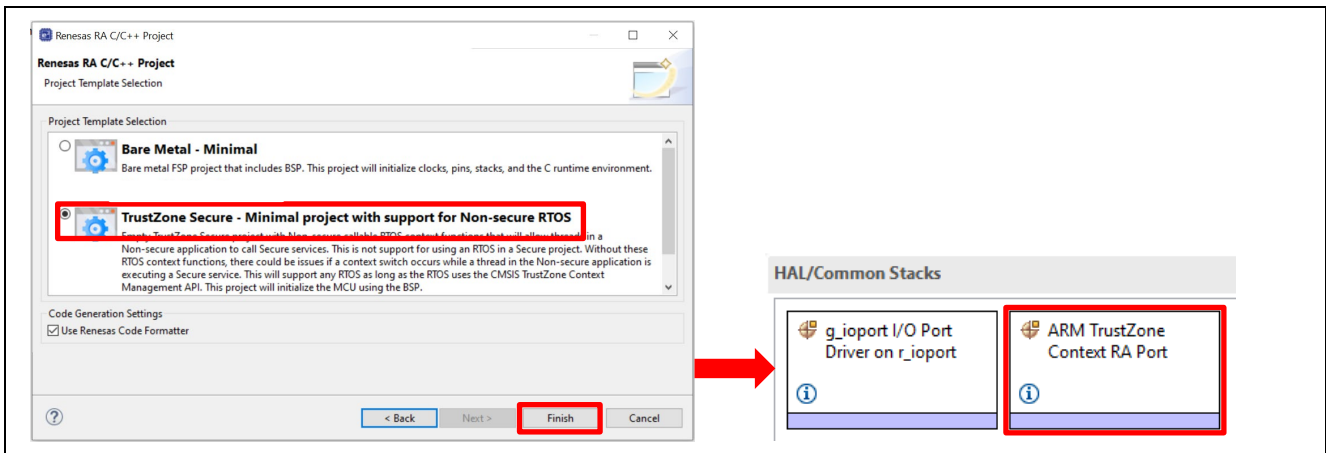

Figure 24. Adding the TrustZone Context RA Port
- Secure projects will add the required RTOS context in the Secure region for the Thread that needs to access the NSC APIs in an RTOS-enabled project. When this project type is selected, the Arm® TrustZone® Context RA Port will be added, as shown in Figure 24.